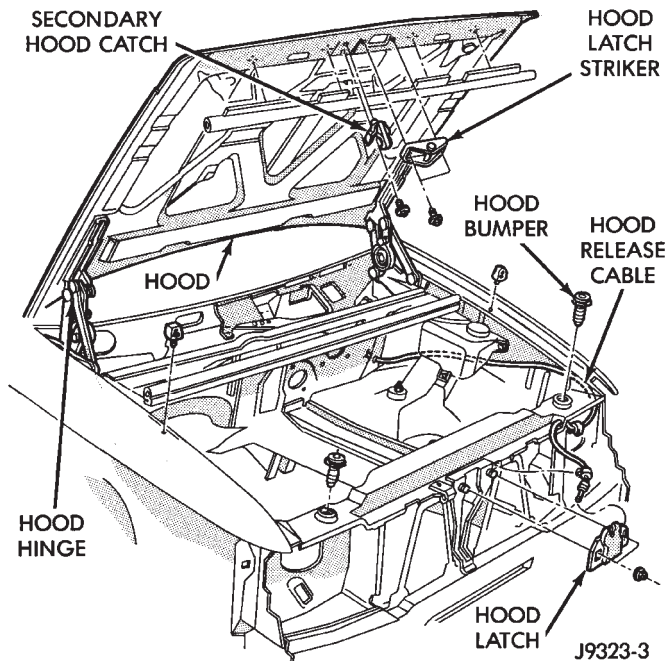
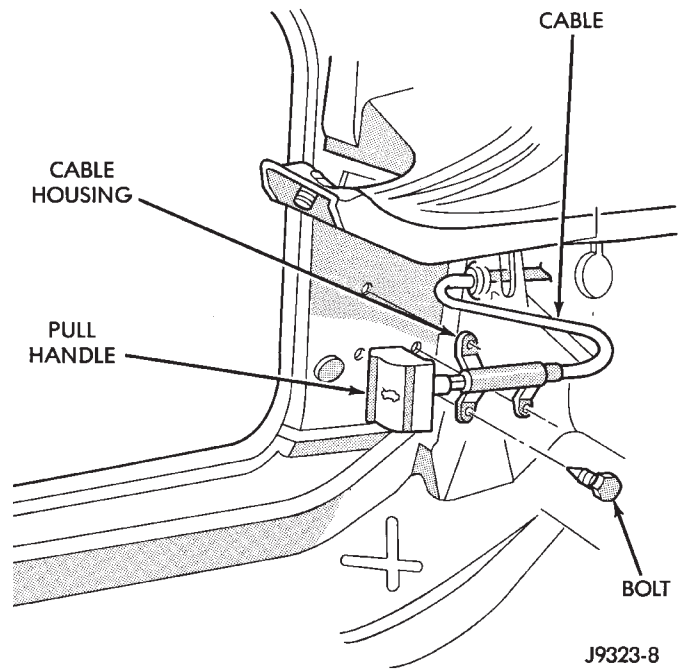

Fig. 12 Hood Hinges and Release Cable
Fig. 15 Hood Release Cable
- (1) Position hood on shims and hinges. Fingertighten hinge nuts (Fig. 12).
(4) Align latch striker (Fig. 12) so that striker enters the latch squarely and without binding.
- (1) Remove nuts that attach latch to radiator crossmember support (Fig. 12).
- (2) Disconnect latch from the hood release cable. Remove latch.
- (1) Connect latch to latch release cable. Position it on radiator crossmember support (Fig. 12).
- (2) Install nuts.
- (3) Tighten nuts to 11 N•m (8 ft-lbs) torque.
- (4) Test operation of latch release cable and latch.
- (1) Remove 2 striker retaining bolts.
- (2) Remove striker from hood (Fig. 12).
- (1) Position striker on hood. Install bolts (Fig. 12).
- (2) Tighten bolts to 11 N•m (8 ft-lbs) torque.
- (3) Test striker/hood alignment by opening and closing hood several times. Adjust striker, if necessary.
- (2) Disconnect cable from retaining clips (Fig. 12).
- (3) Remove left cowl side (kick) trim panel.
- (4) Remove cable bracket attaching screws from cowl side panel (Fig. 15).
- (5) Pull cable through dash panel and remove it from under instrument panel.
- (1) Insert replacement cable end through hole in dash panel (Fig. 15) into engine compartment.
- (2) Pull cable forward and seat grommet in dash panel (Fig. 15).
- (3) Position cable bracket on cowl side panel and install screws (Fig. 15). Tighten screws to 11 N•m (8 ft-lbs) torque.
- (4) Install left cowl side trim panel.
- (5) Route cable into retaining clips.
- (6) Attach cable to hood latch (Fig. 12).
- (7) Test release cable for proper operation.
- (1) Remove latch striker screw from hood (Fig. 12).
- (1) Position striker on hood. Install screw (Fig. 12).
- (2) Test safety latch operation.